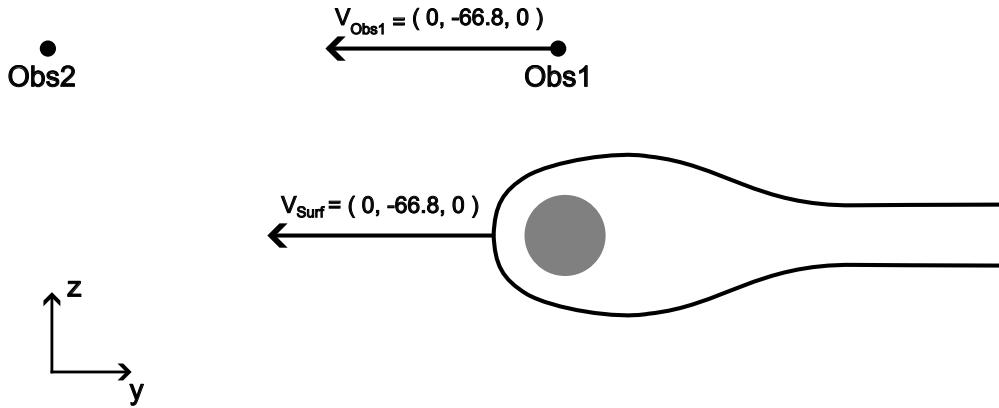

Fig. 1.3: FWH surface and observer motions - FWH (quiescent medium) frame of reference
When the FWH equations are derived, we make an important assumption - that of a 'quiescent medium' (i.e. still air, with a free-stream velocity of zero). Clearly, with a freestream velocity of  $(0, 66.8, 0)$ , the flow in our CFD simulation does not satisfy this condition. In order to use the FWH solver, we therefore have to perform a co-ordinate transformation, as in Fig. 1.3. In the *run\_fwh* utility, this co-ordinate transformation is performed automatically, whereas in the *fwh python module* we set up the surface and observer motions through the FWH quiescent medium manually.
The centre of the cylinder in the CFD mesh is at (0.25,0,0), and we want *Obs1* to always be (0,0,20) metres away from the cylinder centre during the FWH simulation. Since the cylinder 'travels with' the FWH surface (see Fig. 1.3), we can therefore say that the motion of the cylinder centre in the FWH co-ordinate frame is  $\mathbf{x}(t) = ((0.25, 0, 0) + (0, 0, 20)) + \mathbf{V}_{surf} t$ . We therefore set the motion of *Obs1* to be  $\mathbf{x}(t) = (0.25, 0, 20) + \mathbf{V}_{surf} t$ . We set *Obs2* to be stationary in the FWH reference frame, and to be coincident with *Obs1* at  $t=2.5$ . We save the outputs to a json file called *FWH\_data.json*.
*Obs1* moves through the FWH medium at a constant displacement from the cylinder centre (see Fig. 1.3). We see from our post-processing that the noise experienced by *Obs1* is dominated by a constant 10 Hz component, which is the shedding frequency of the cylinder. Various harmonics of the 10 Hz signal are present in the power spectral density plot for *Obs1*.